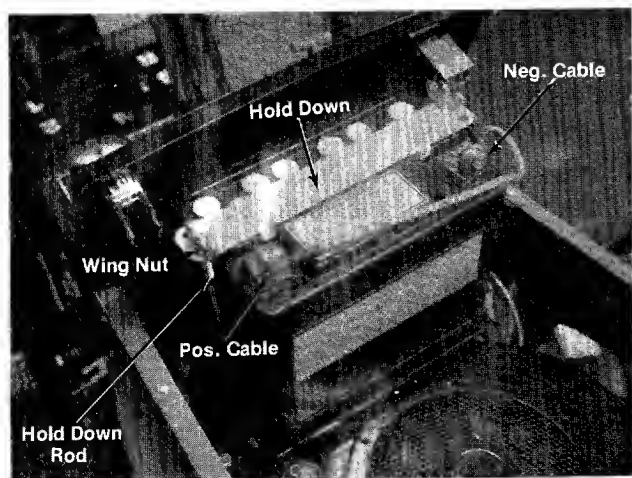

FIGURE 5.
5. Hook the hold down rods under the battery case and place the hold down over the manifold of the battery as shown in figure 5.